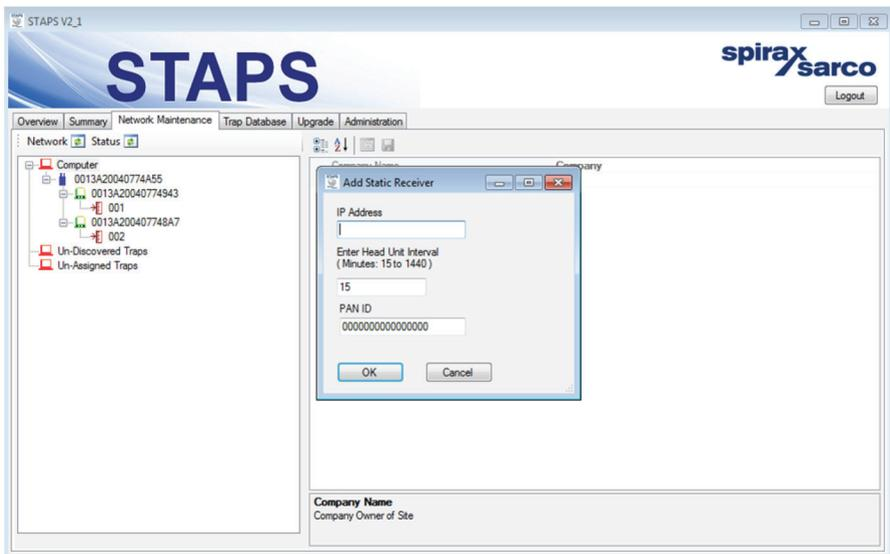

Fig. 29
6. In the dialogue box, shown in Figure 29, set the IP address of the Receiver, the Transmit Interval and PAN ID.